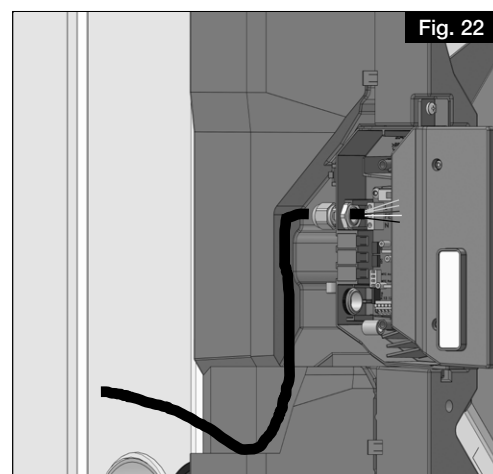

Fig. 22
5. Feed the mains cable through the cable gland into the terminal box housing (see Fig. 22). Connect the mains cable (observe wiring diagram), **and connect the room sensor or external switch contact (optional).**